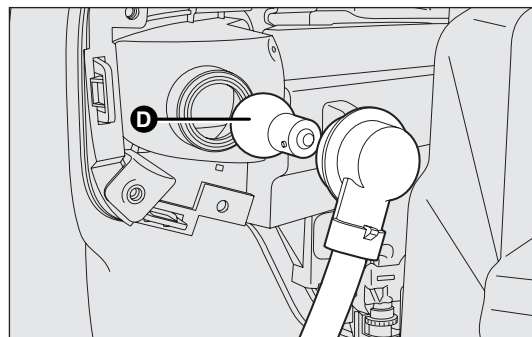

fig. 165
- remove the bulb D-fig. 165 by pushing it in gently and turning anti-clockwise ("bayonet" clamping), then replace it;